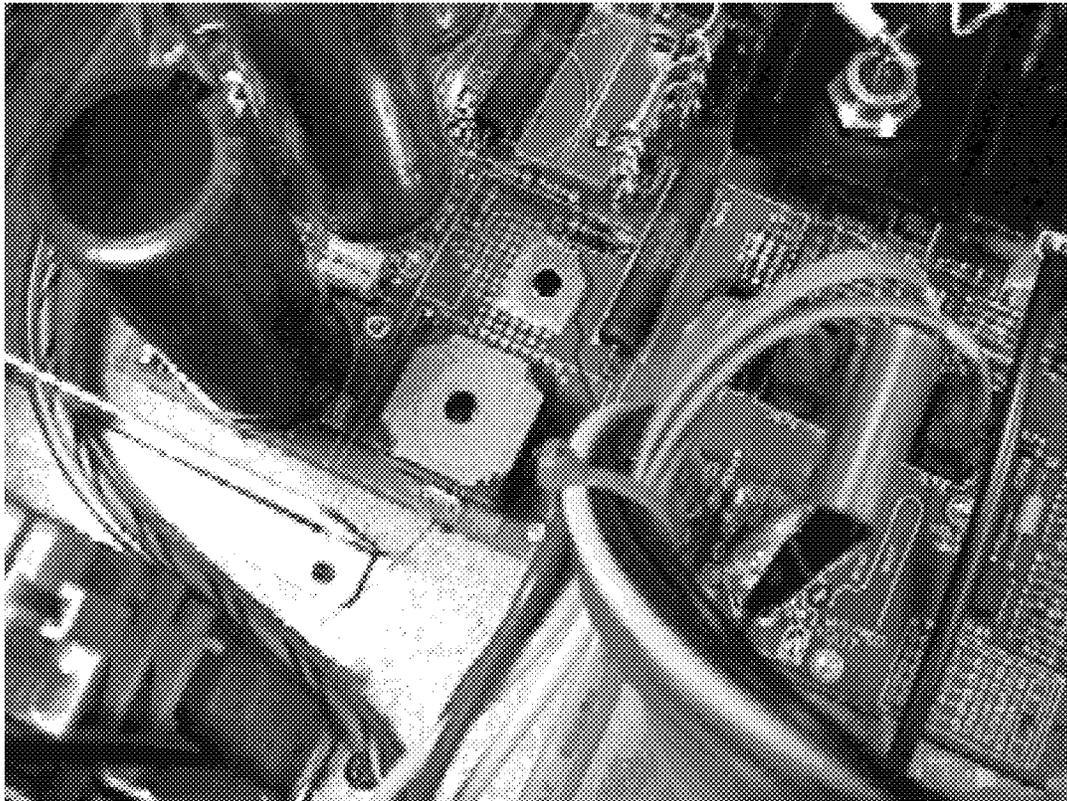

Figure 2a. Diode Assembly
3. With a pair of wire cutters, snip the leads of the bridge on the main board. (See Figure 2a and 2b.) It is not necessary to remove the remaining leads from the board. Please inspect the board to check for any shorts.